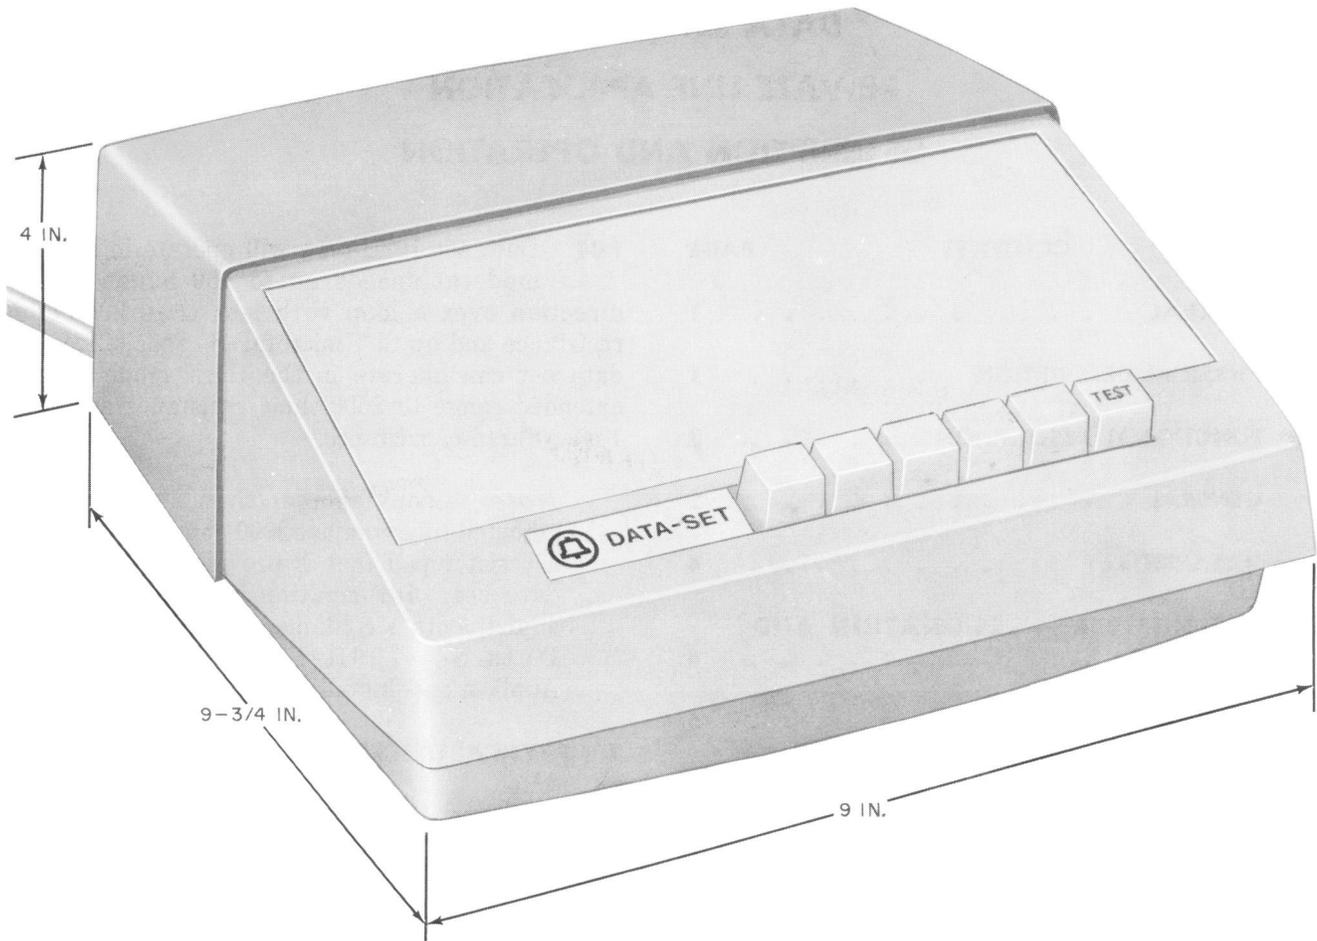

Fig. 1—Data Set 109H-L1
2.01 Data set 109H-type in a private line application has one list number which provides an optional feature in addition to the basic data set functions. The basic data set is designated 109H-L1 (see Fig. 1). The additional list number (data set 109H-L1/5) is provided by the internally mounted GR1 circuit pack.